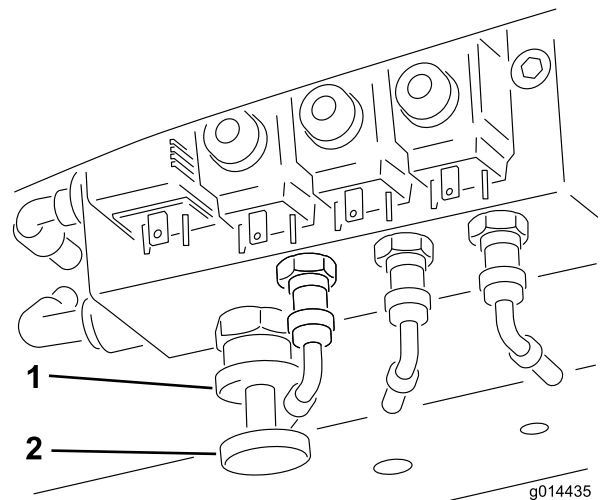

Figure 42
To engage weight transfer: The amount of weight transfer can be varied to suit operating conditions by rotating the weight transfer hand wheel (Figure 42) as follows:
1. Release the valve lock nut 1/2 turn anti-clockwise and hold (Figure 42).
2. Rotate the valve hand wheel (Figure 42).